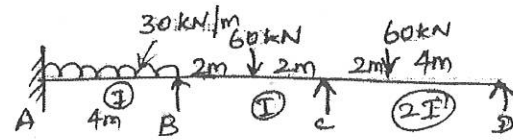

Figure 3
12. (a) Analyse the continuous beam shown in Figure.3 using the Theorem of three moments.